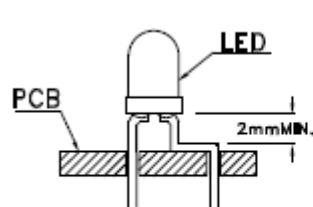
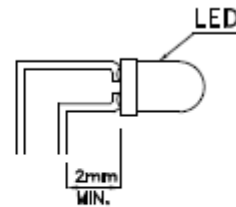

Fig. 5
Fig. 6
1. Maintain a minimum of 2mm clearance between the base of LED Lens and the first lead bend (Fig.5 and Fig.6)